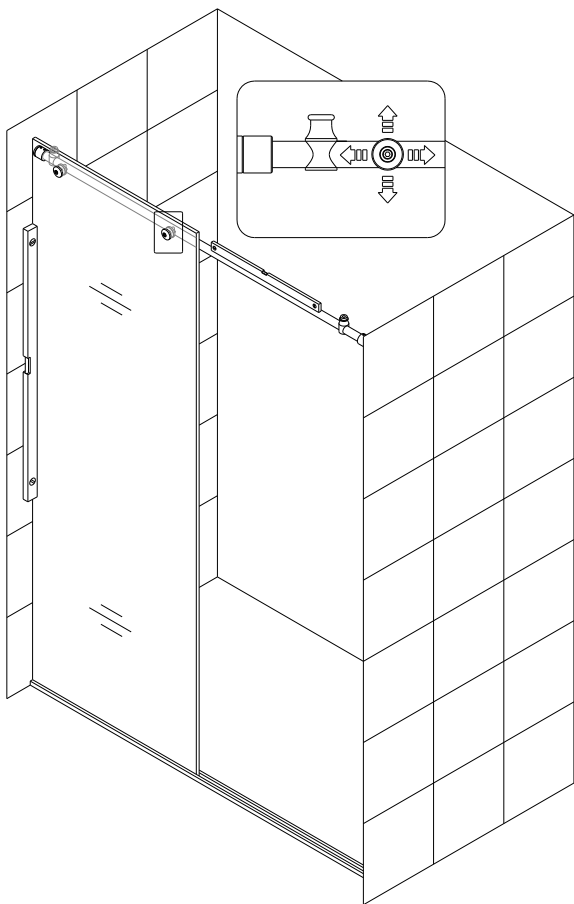

Fig. 7
6. a) Place the **Stationary glass panel** on the threshold and push the bottom edge into the groove of the **Threshold**. Push the **Stationary glass panel** against the wall (**Please note that the Running rail shall now be seen inside the enclosure**). Make sure the **Stationary glass** and the **Running rail** are leveled. If a horizontal adjustment is required, adjust it in the **Glass brackets**. See fig. 7 for details.